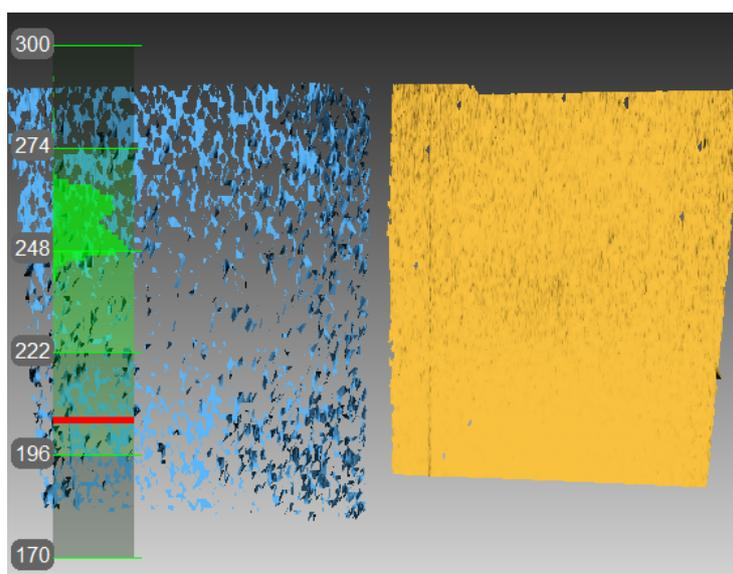

Figure 154: Artec Spider correction results.
In some cases, owing to careless handling or transportation (jolts, accidental drops or some other reason), the scanner may fail to capture surfaces properly. The scanned surfaces may only be partially reconstructed or may contain holes (for example, the results of bad reconstruction are noticeable on the blue surface in Figure 154). You can resolve these issues by correcting or calibrating the scanner.
9. Repeat Step 8 three more times. Once you finish, the calculation will start. A yellow plane that corresponds to the surface you captured using the corrected calibration settings will then appear in the *3D View* window (see Figure 154).